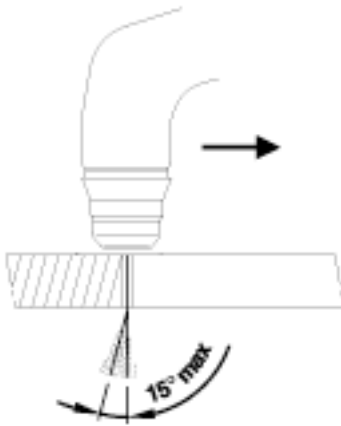

Fig. 4
4. Place the cutting torch on the edge of the material to be cut. Depress the trigger on the cutting torch. Pre-air flow will occur for about 1/2 second. The pilot arc will start immediately after that. Once the main arc is established, **KEEP THE PLASMA TORCH IN CONTACT WITH THE WORKPIECE** if you are using the drag cutting tip. Adjust the cutting speed based on the thickness and type of material you are cutting. Hold the plasma torch perpendicular to the work. Move the plasma torch at a speed which keeps the plasma arc bent anywhere from 5 to 15 degrees. (See Fig 4). When you release the trigger, the arc will stop, but air will continue to flow for about 30 seconds to cool the plasma torch. When using the drag cutting tip, the highest cutting efficiency is achieved by keeping the plasma cutting tip perpendicular and in contact with the work surface putting very little downforce on the plasma torch. If you move too fast, sparks will shoot up and you will not cut all the way through the work. If you are cutting correctly all the plasma sparks will go beneath the panel you are cutting.